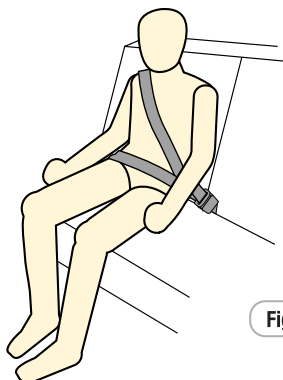

Figure 5
Step 5: Can the child stay seated like this for the whole trip? (refer Figure 5).